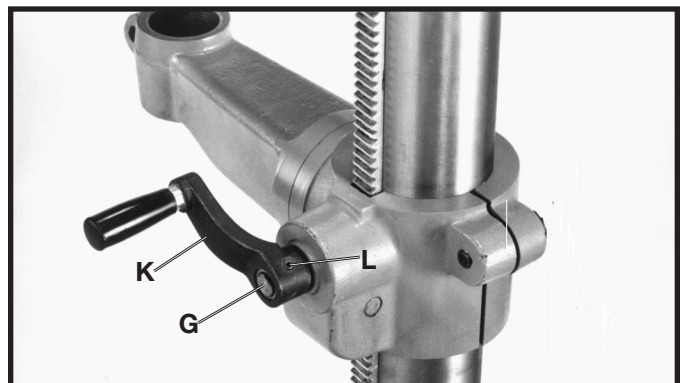

Fig. 10
6. Assemble table raising and lowering handle (K) Fig. 10, to worm gear shaft (G) and tighten screw (L) against flat on shaft with 3mm wrench supplied.